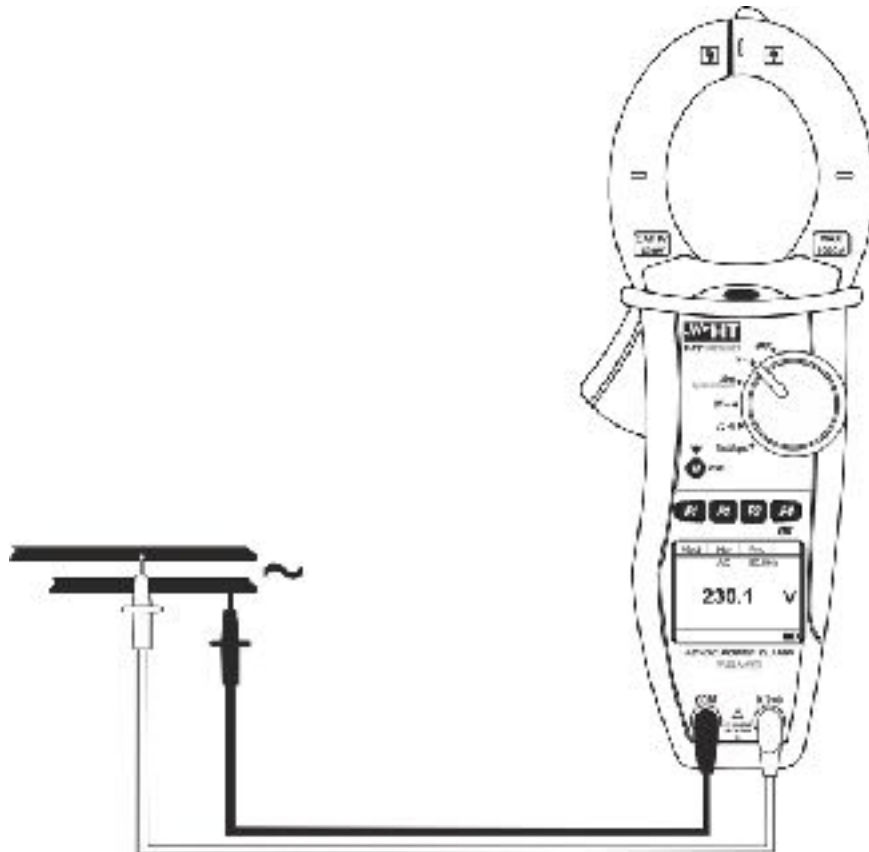

Fig. 6: AC/AC + DC voltage measurement
4. Connect red cable to input lead **VΩ⌚** and black cable to input lead **COM** then position the leads to the desired points of the circuit under test (see Fig. 6)